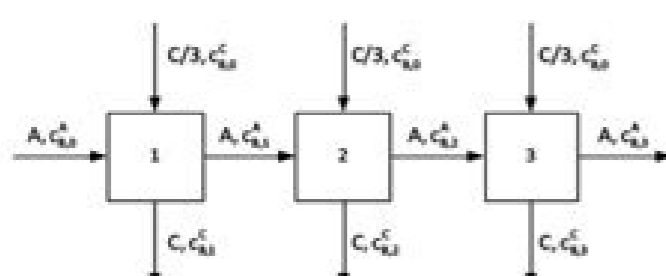

Figure 2: 3-stage cross-current absorber.
- (ii) The solvent is divided in 3 equal parts; each third of solvent is fed in a stage of a 3 stages cross-current process, as shown in Figure 2.